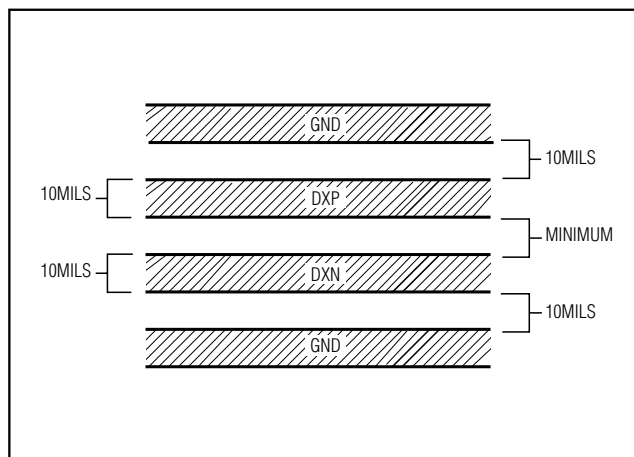

Figure 5. Recommended DXP/DXN PC Traces
- 4) Connect guard traces to GND on either side of the DXP-DXN traces when possible (Figure 5). With guard traces in place, routing near high-voltage traces is no longer an issue.
- 7) Use wide traces. Narrow traces are more inductive and tend to pick up radiated noise. The 10-mil widths and spacings recommended in Figure 5 are not absolutely necessary (as they offer only a minor